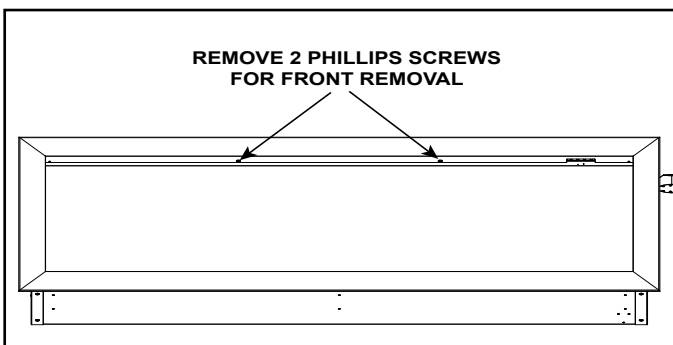

Figure 4.2 Front Removal
To remove the front finishing trim, remove the two (2) Phillips screws located at the top of the trim. See Figure 4.2.